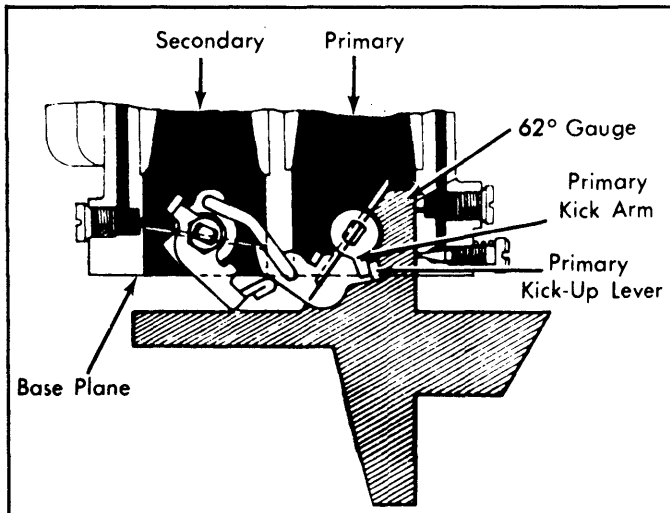

Fig. 5: 1974-75 Throttle Valve Adjustment
**1975-75 Models** - Open primary throttle valve 62 degrees from horizontal. Secondary throttle valve should start to open. See Fig. 5. At this point, primary kick-up arm and primary kick-up lever should come in contact. To adjust, bend kick-up lever.